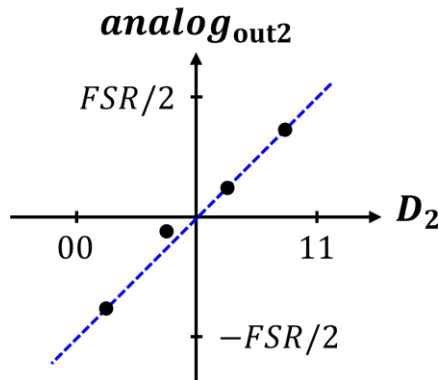

Figure 4: Non-ideal transfer characteristic of the DAC of stage 2.
- k. Repeat task I.i using the transfer characteristic for the DAC of stage 2 shown in Figure 4 where the analog output for code 01 is $-FSR/16$ instead of $-FSR/8$.